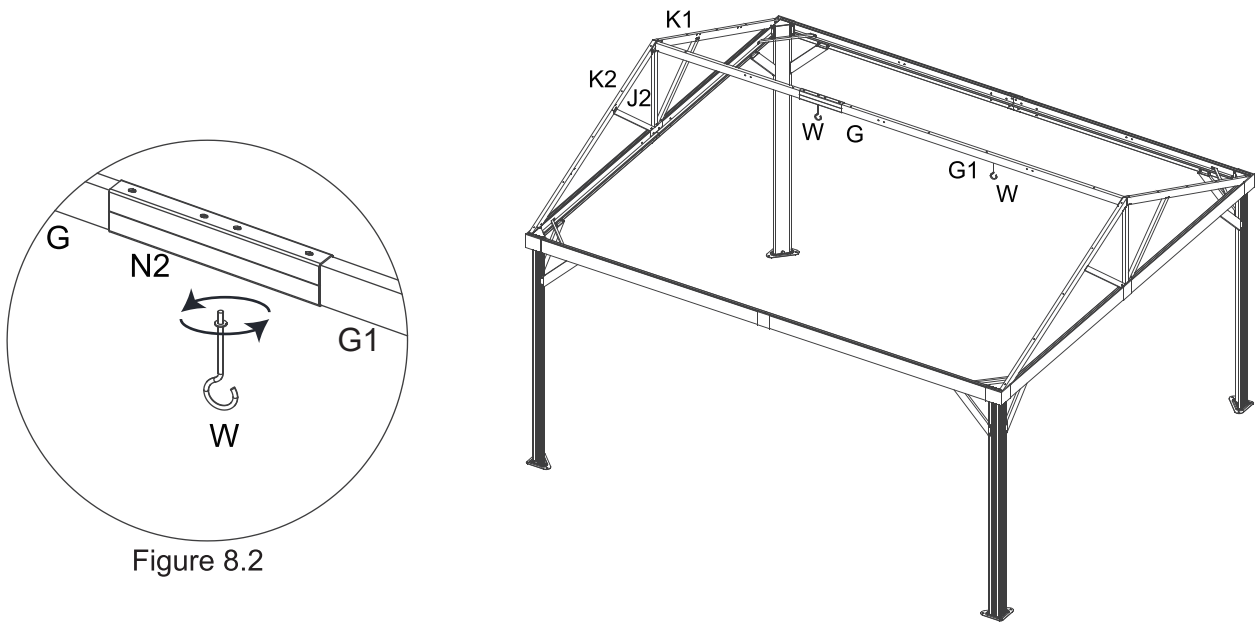

Figure 8.2
8.2 Connect the Roof Vent Hook (W) to the Middle Support bar (G1) and Connector (N2). See Figure 8.2.